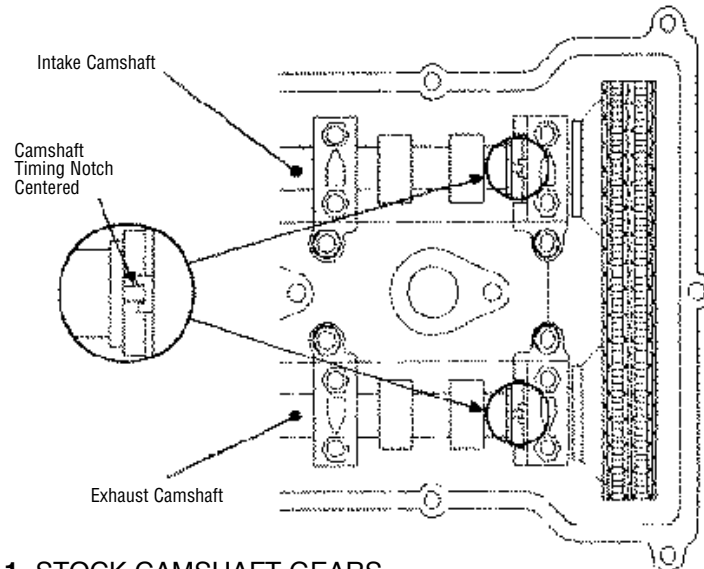

Figure 1 STOCK CAMSHAFT GEARS
6. Using socket on crank pulley nut, rotate crank clockwise to line up OT mark on pulley with mark on front cover. (TDC - cyl. #1). At this time, camshaft timing marks are centered in notches on rear side of the front bearing journals. *See Figure 1.*